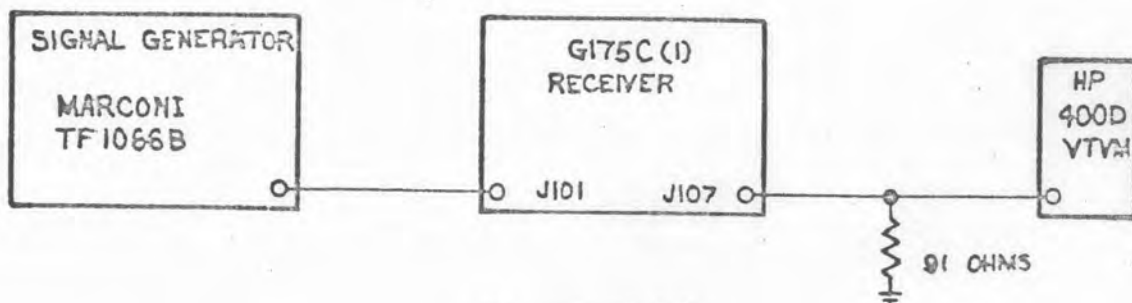

Figure 5-19
- a. Connect equipment as shown in figure 5-19.